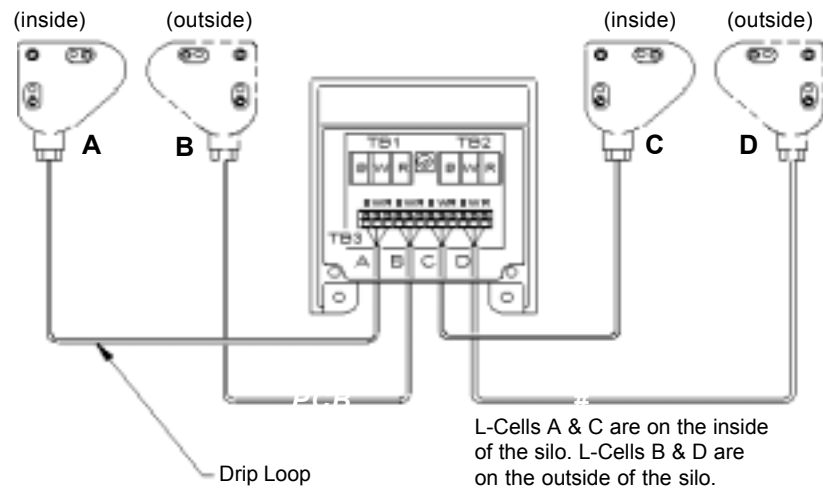

Figure 5-39. Wiring L-Cells to Junction Box (inside view of skirt)
2. See Figure 5-36. Place a plastic washer on the watertight fitting. Thread the L-Cell cable through a cap and watertight fitting. Leave an adequate length of cable between the L-Cell and fitting to provide a drip loop (see Figure 5-39).